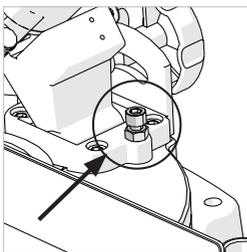

Fig. 9
- Loosen the locknut on the Bevel Angle Adjustment Screw. **(Fig. 9)**